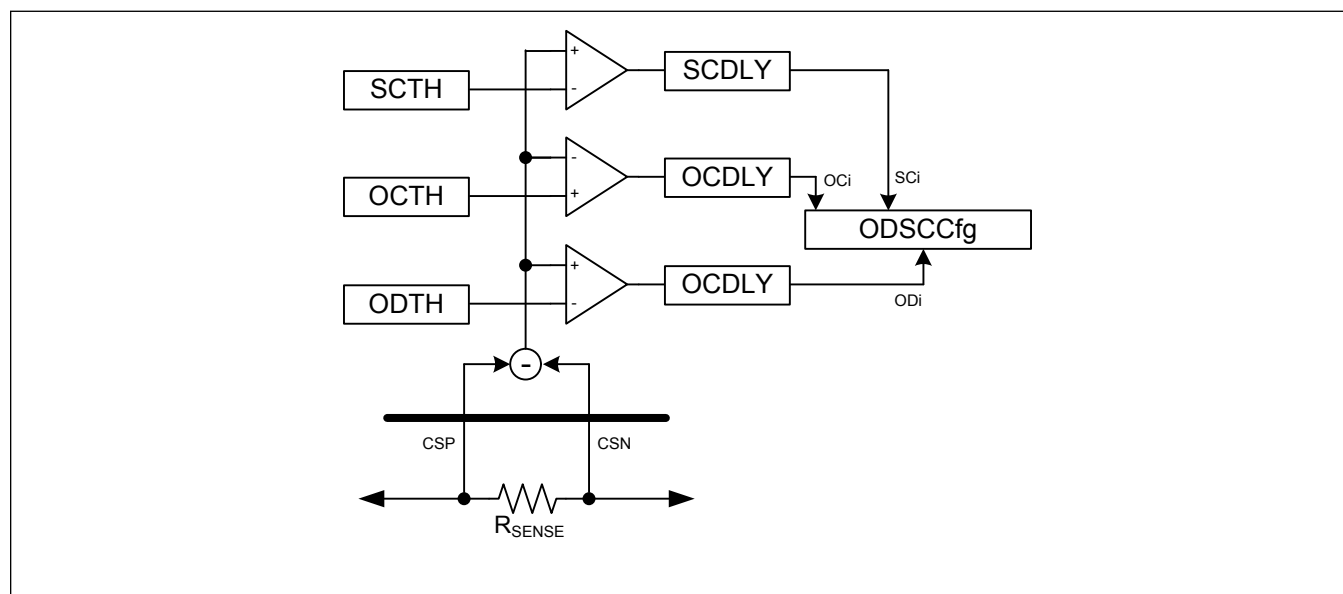

Figure 12. Overcurrent Comparator Diagram
The MAX17330 contains three programmable fast overcurrent comparators called Overdischarge (OD), Short-Circuit (SC), and Overcharge (OC) that allow control protection for overdischarge current, short-circuit current, and overcharge current. These comparators have programmable threshold levels and programmable debounced delays. See Figure 12.